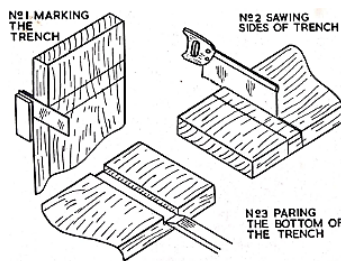

Fig. 3.4B: Housing joint construction
8. If the marking has been accurately done and the work carefully performed, the joint should fit perfectly first time (figure 3.4B).